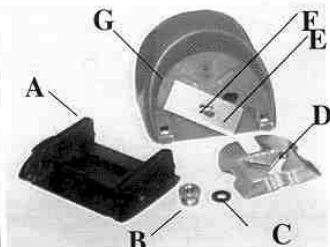

Figure 1
INSTALL A MAT BLADE by first removing the bottom plate (A), which snaps into place, then remove the knurled nut (B), washer (C), and blade cover (D). Place a blade (E) as shown (Figure 1), replace the cover, washer, nut and the bottom plate. Be Sure the screw (F) shoulder rides in the slot in the base. Set the depth of cut before tightening the knurled nut.